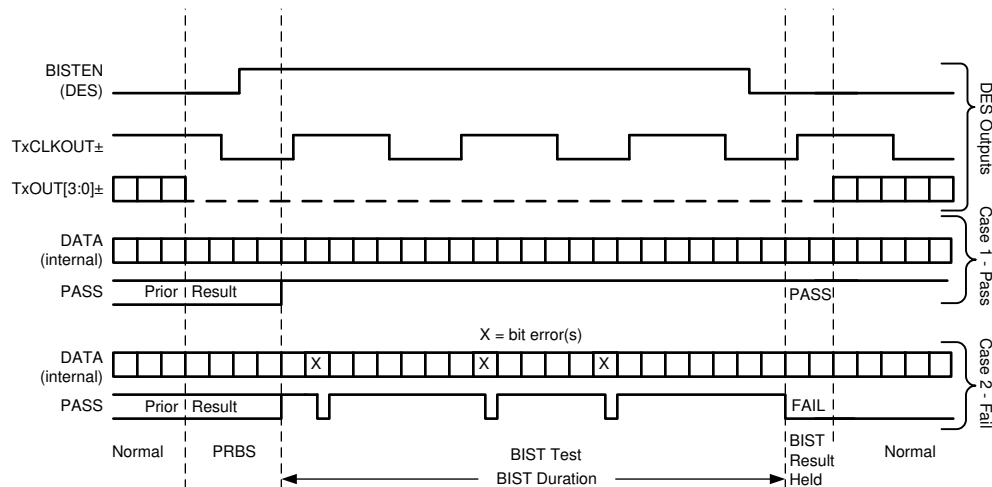

图 17. BIST Waveforms in Conjunction With Deserializer Signals
Step 4: The link returns to normal operation after the deserializer BISTEN pin is low. 图 17 shows the waveform diagram of a typical BIST test for two cases. Case 1 is error-free, and Case 2 shows one with multiple errors. In most cases it is difficult to generate errors due to the robustness of the link (differential data transmission, and so forth), thus they may be introduced by greatly extending the cable length or faulting the interconnect medium.